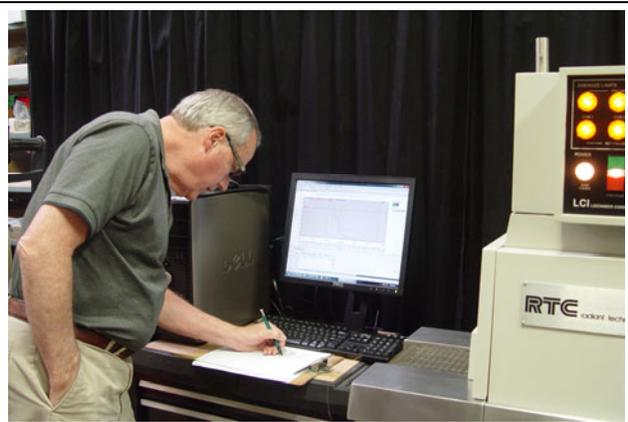

Figure 8-10 Recording Setpoints
F. Record temperature setpoints and process gas flowmeter setpoints in a log (Figure 8-10)